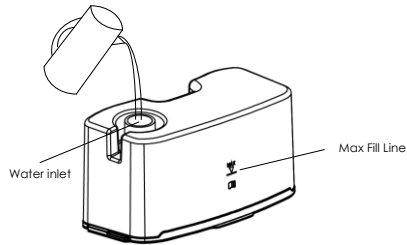

Figure 4-4
(2) Inject water: Fill the water chamber with approximately 350 ml of water through the water inlet. Make sure that the water does not exceed the Max Fill Line (See Figure 4-4).